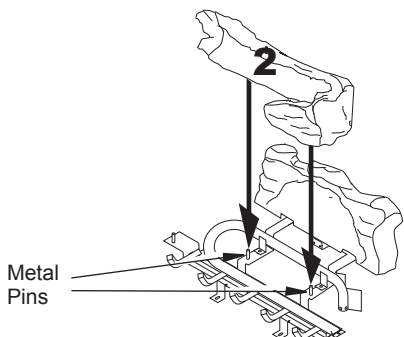

Figure 30 - Installing Log No. 2
2. Rest log #2 (front log) on pins on front part of grate (see Figure 30).